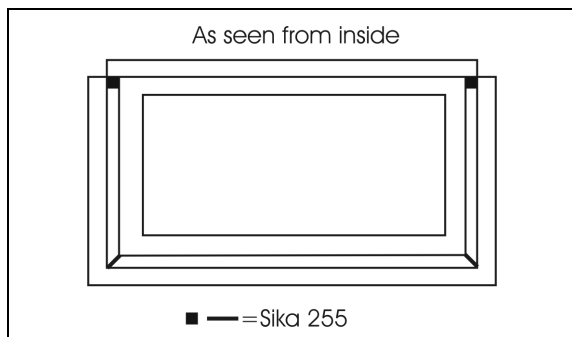

FIGURE 64: SIKa 255 APPLICATION
5. Apply Sika 255 in the upper and lower frame corner as per FIGURE 64.